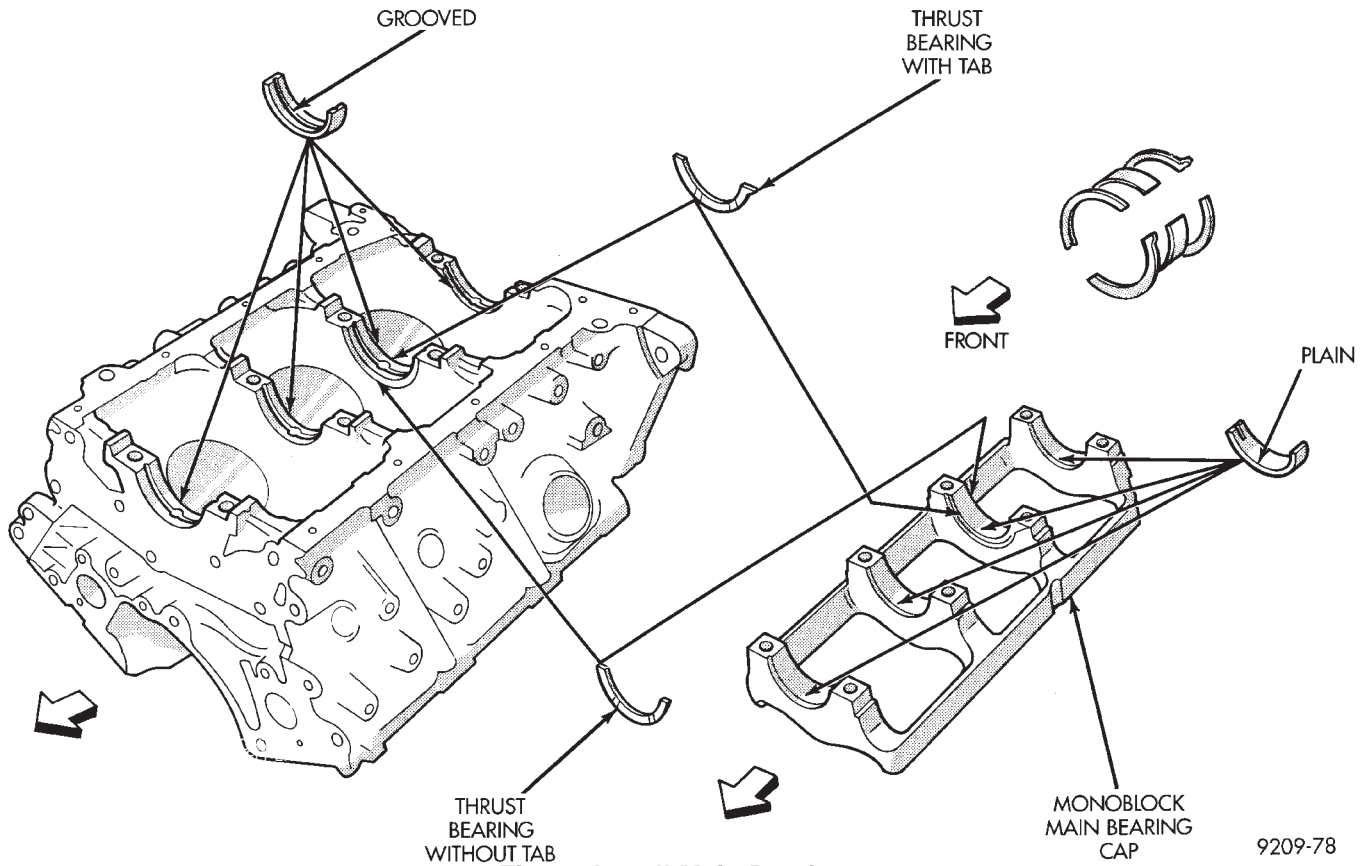
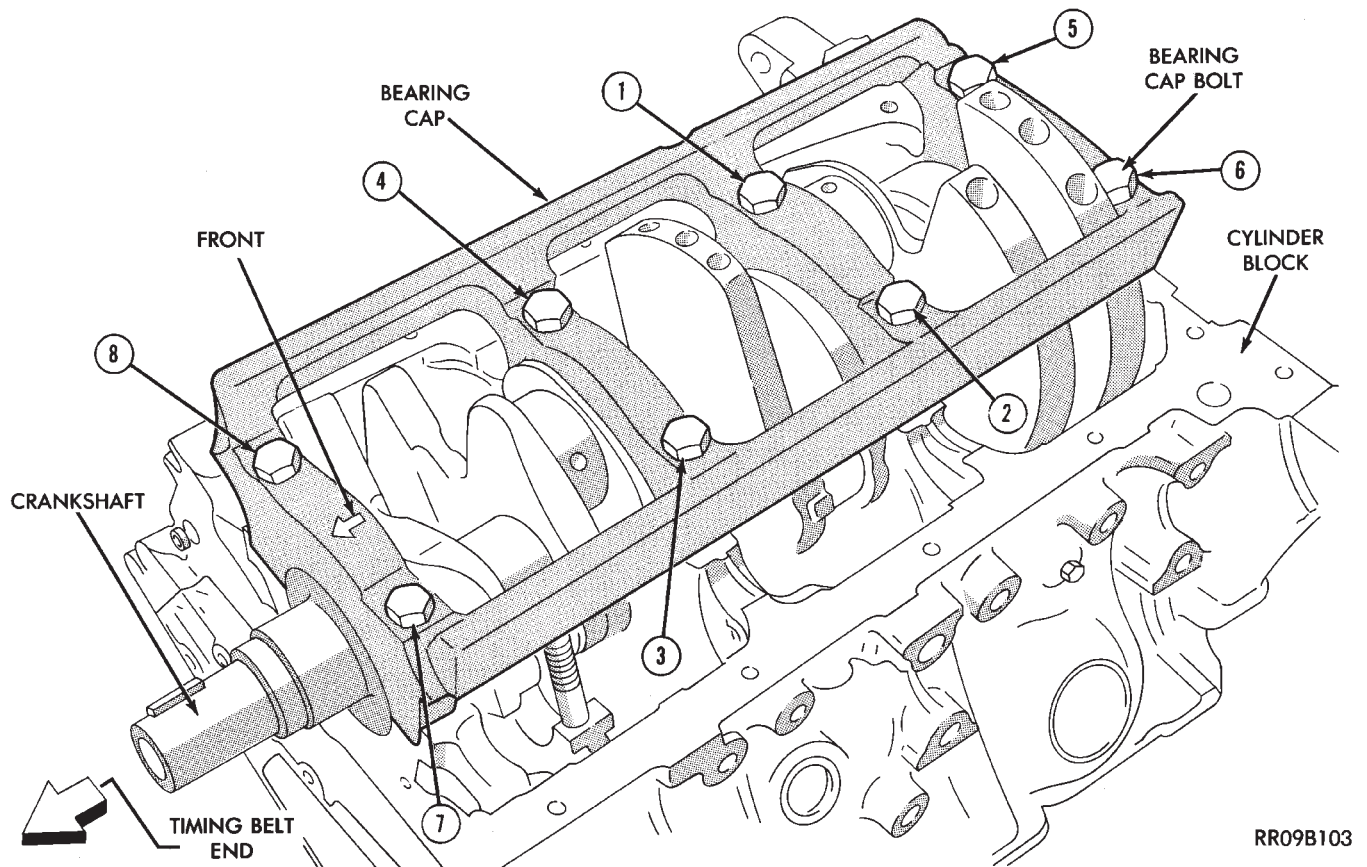

Fig. 69 Install Main Bearings
Fig. 70 Crankshaft Main Bearing Cap
- (1) Install upper main bearing shells making certain oil holes are in alignment, and bearing tabs seat in block tabs. All upper bearings have oil grooves (Fig. 69).
- (2) **THRUST BEARINGS.** Crankshaft thrust bearings (washers) are installed at journal #3 separately from the radial bearings. Thrust bearings are different, one has end positioning tabs, while the other is plain. One **pair** of each thrust washers are installed into the block and one **pair** into the main bearing cap (Fig. 69).
- (3) Apply a thin film of grease to plain side of thrust washers and position them on each side of number three main bearing. Grooved surface towards crankshaft.
- (4) Oil the bearings and journals and install crankshaft.
- (5) Install lower main bearing shells without oil grooves in monoblock cap.
- (6) Install one pair of thrust washers in cap.
- (7) Carefully install bearing cap with arrows (Fig. 70) toward timing belt end.
- (8) Oil the bearing cap bolt threads, install and tighten bolts progressively in sequence shown in (Fig. 70) to 94 N-m (69 ft. lbs.) torque.